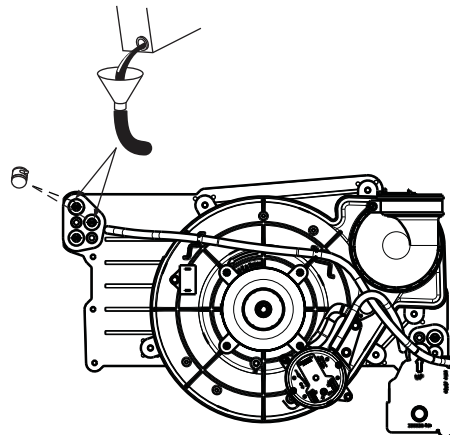

Fig. 59 - Priming Condensate Trap
4. Remove the top unused rubber plug from the port on the collector box opposite the condensate trap. See Fig. 59.
9. Remove the middle unused rubber plug from the port on the collector box opposite the condensate trap. See Fig. 59.